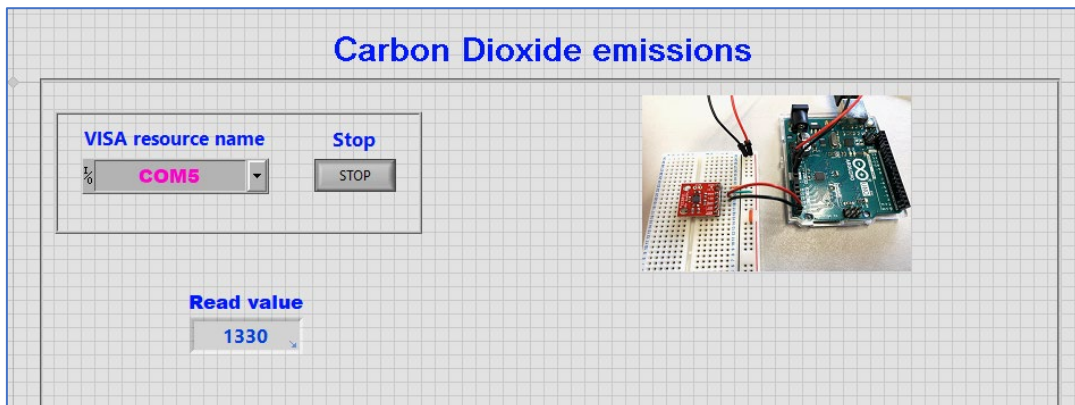

Figure 3. Arduino Sketch: Check the data transfer.
3.- On you Control Panel: Create a simple user interface as follows. This ensures that LabView is receiving data properly (Figure 3).